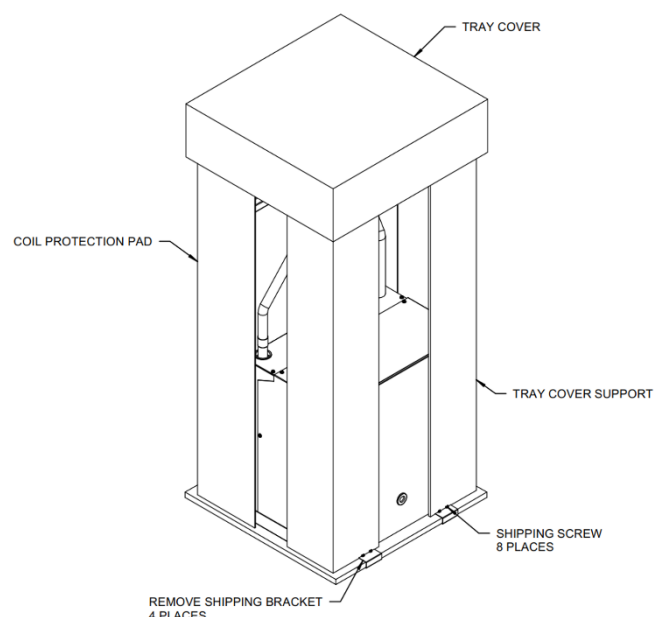

FIGURE 11– Standard Packaging with Brackets – Chassis
- 9) Ensure that the shipping screws are removed from the unit. Refer to **FIGURE 11 – Standard Packaging with Brackets - Chassis** for more information.